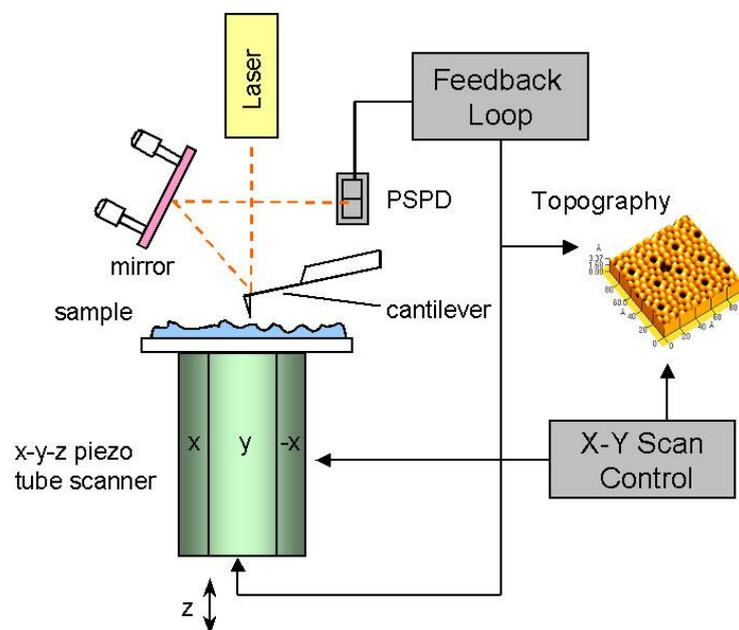

Figure 7-1. Diagram of conventional AFM's scanning
Figure 7-1 displays the basic configuration for most AFMs. This scanning AFM is typically used to measure a wide variety of samples, which have a relatively small roughness. The force between the atoms at the sample's surface and those at the cantilever's tip can be detected by monitoring how much the cantilever deflects. This deflection of the cantilever can be quantified by the measurement of a laser beam that is reflected off the backside of the cantilever and onto the Position Sensitive Photo Detector (PSPD). The tube-shaped scanner located under the sample moves a sample in the horizontal direction (XY) and in the vertical direction (Z). It repetitively scans the sample line by line, while the PSPD signal is used to establish a feedback loop which controls the vertical movement of the scanner as the cantilever moves across the sample surface.